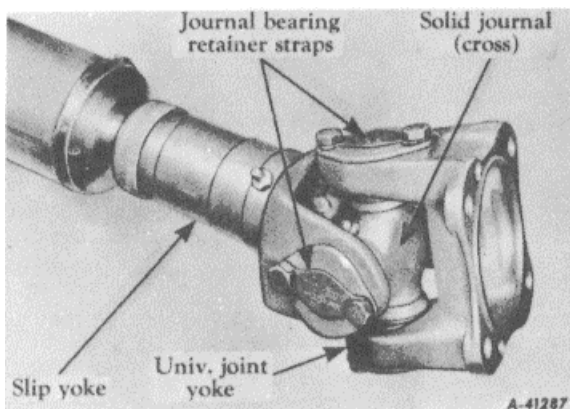
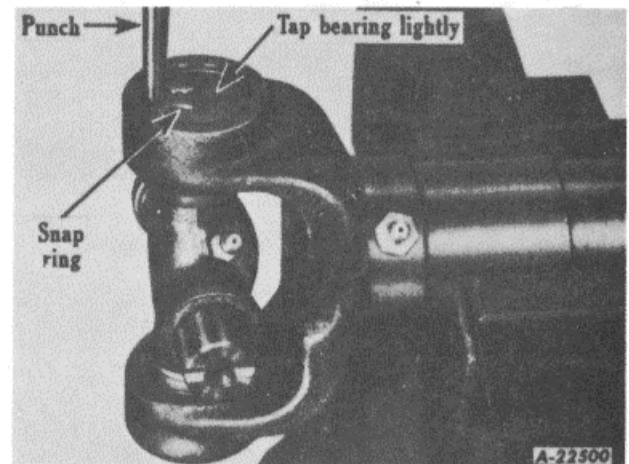

Fig. 13
Fig. 16
An optional universal joint having a solid journal or cross and using a metal strap retainer, Fig. 13, or exposed snap ring, Fig. 16, to hold the journal bearings in place, is also used on IHC trucks. Disassembly of this type joint is as follows:
- c. Using a small punch, tap the end of the needle bearing assembly to loosen the snap ring. Move the needle bearing only enough to break the bearing assembly away from the snap ring, Fig. 16.